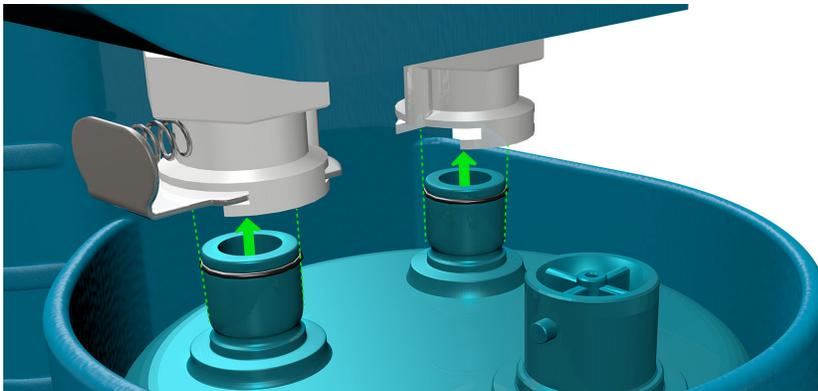

Figure 7
7. Align the two ports and press upwards until it “clicks” into place (**Figure 7**).